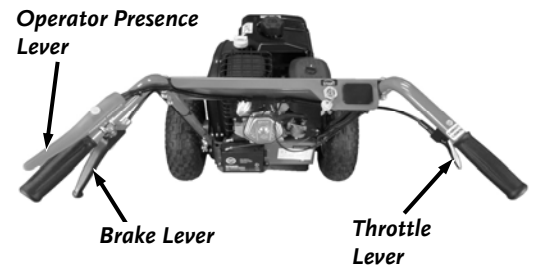

Figure 36
Familiarize yourself with all of the Control Levers and their functions before operating the Stump Grinder (**Figure 36**).
1. Slowly release the Throttle Control Lever to the idle position (**Figure 36**).